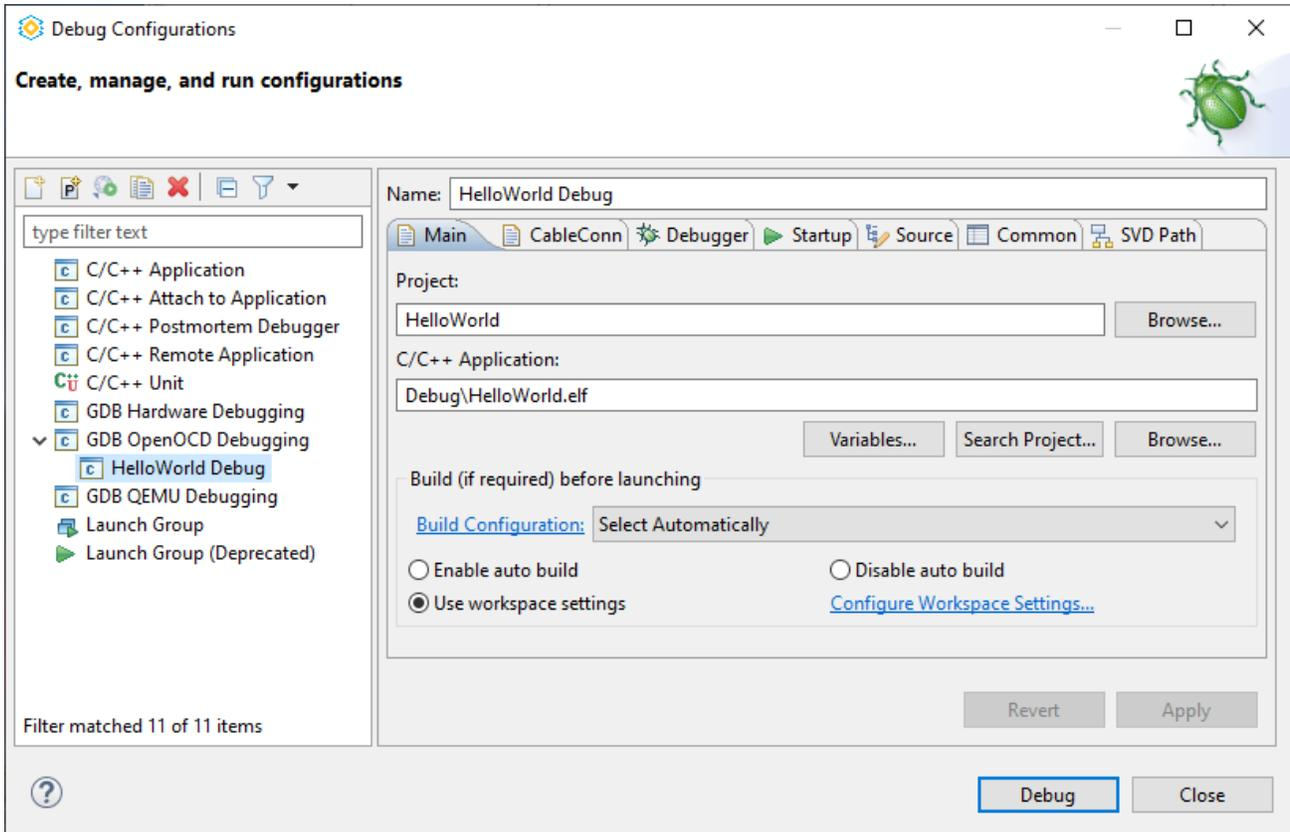

Figure 4.13. Debug Configurations Page
7. Double-click **GDB OpenOCD Debugging** to create a new launch configuration (Figure 4.13).